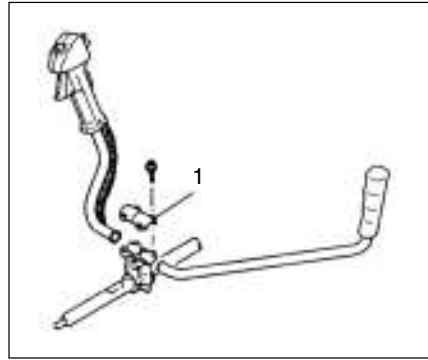

Fig. 1-2
Installation of handle (Fig. 1-2)
Remove the handle bracket (1) from the assembly. (Fig. 1-2)
Montage du guidon (Fig. 1-2)
Déposer la bride du guidon (1) de l'ensemble. (Fig. 1-2)
Montaggio del manubrio (Fig. 1-2)
Togliere la parte superiore del morsetto (1) del manubrio. (Fig. 1-2)